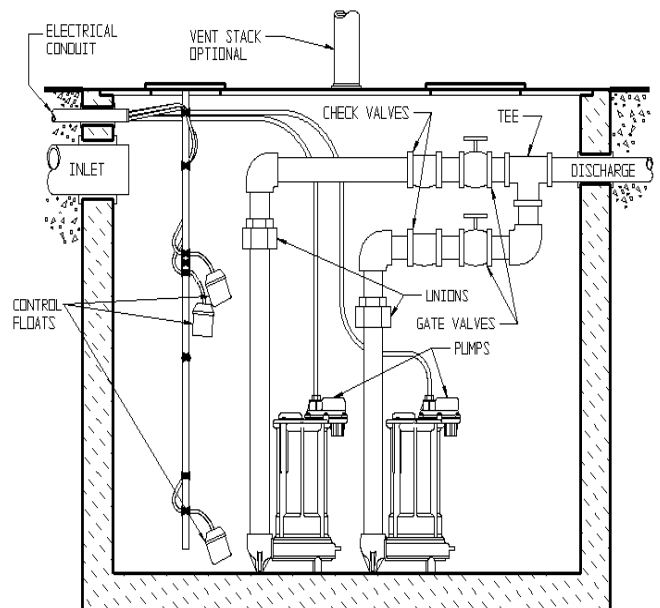

Fig. 3 – Typical Installation Duplex System
- B. **Duplex (Two Pump) Systems (see Fig. 3):** Set both pumps in place in the bottom of the basin. The duplex control used will include 3 or 4 floats that will either be tethered to one of the discharge pipes or to an independent rod or bracket.